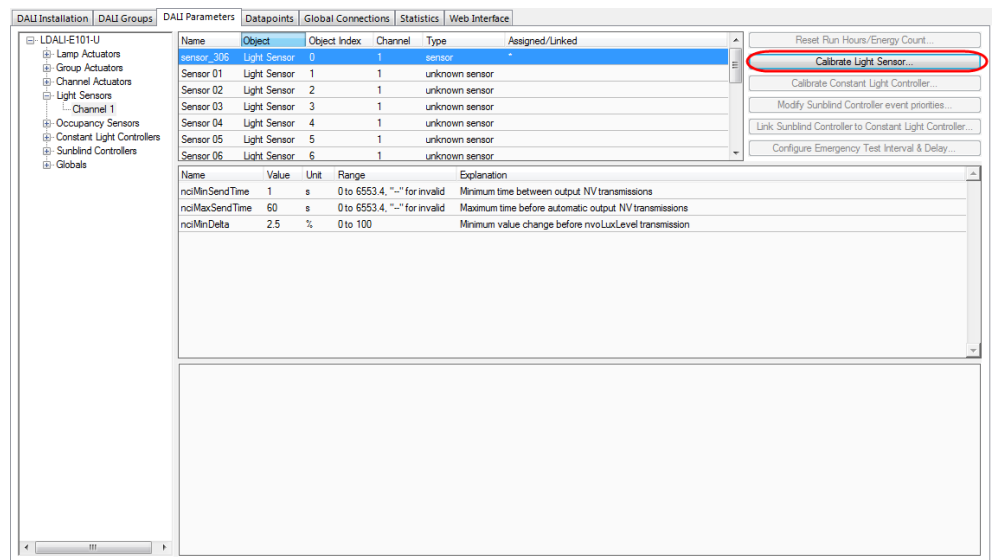
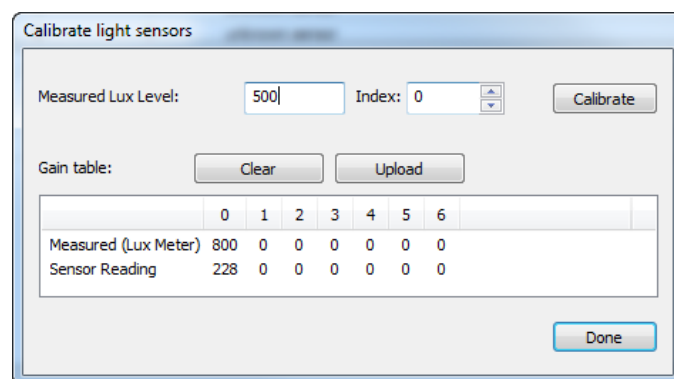

Figure 29: Parameterize Light Sensor.
Figure 30: Calibrate Light Sensor.
- Select the light sensor index 0 and click on the **Calibrate Light Sensor...** button as shown in Figure 29. The light sensor calibration window as shown in Figure 30 is displayed.